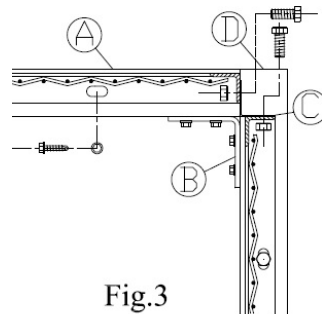
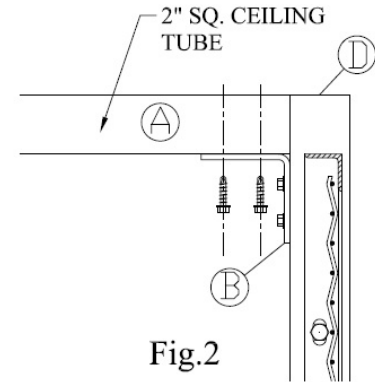

Fig.3
Fig.2
5. Invert Track Bracket (G2) and attach to far end of Track (D) using one 3/8" x 1" bolt. If end of track aligns with post, do not invert track bracket.
- ii. Slide open end of second track section (D) into open end of Splice Track Bracket (A).
6. Using one 3/8" x 2-1/2" bolt, one slide door shim (O) and one 2" Slide Door Spacer (P), attach the inverted track bracket on the far end of Track (D) to the wire mesh panel. TRACK MUST BE LEVEL.
- a. Per Fig. 3 place one 2" Slide Door Spacer between the Track Bracket and the mesh, and the Slide Door Shim on the outside of the mesh and fasten in place with one 3/8" x 2-1/2" bolt and hex nut.
8. Hang door (I) on Trolley Trucks.
3. For 8' high doors, attach one 18" DEP Channel (D) per joint, to top frame with 3/8" x 1" carriage bolts, see Fig.2.
4. Attach lower angle cover bar (E) to bottom of door with 3/8" bolts and nuts.
4. Align horizontal ceiling tube (A) with posts (D), attach to bracket (B) with self-drilling screws per Fig.2.
5. Install slotted angle (C) on top of wall panels per instruction page 17.
7. Use self drilling screws to attach panels to horizontal ceiling tubes Fig.3.
5. Lift ceiling tube (A) above the partition wall post (D) and lower into place so that the top bracket fits inside of wall post (D) Per Fig 2.
6. Align ceiling tube(A) with wall post(D) and secure lower bracket to post using self drilling screws see Fig.2
8. Lift panels into place, face side up, and attach to slotted angle (C) with 3/8" x 1" bolts (see Fig.3 page 20).